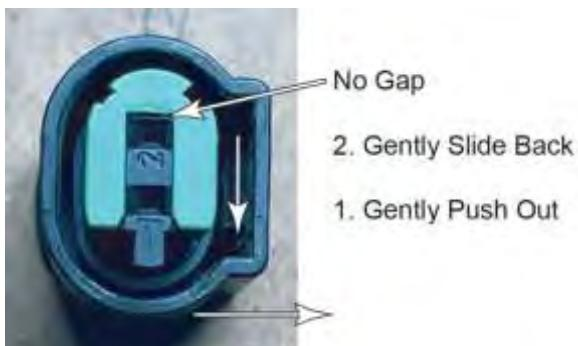
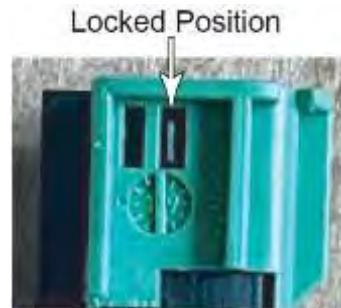

Figure 137
Figure 138
(5) Slide the second contact retainer back to its locked position (Figure 137). The locked position can be verified by ensuring there is no gap between the lock and the face of the connector and that the lock clip is in the lock position (Figure 138).